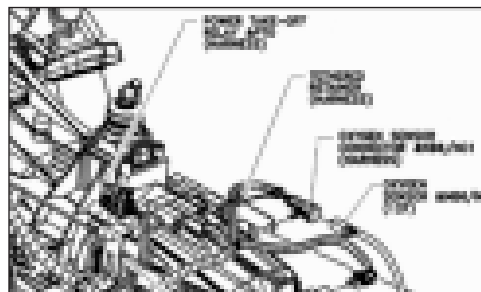

Fig. 17
20. On the right side of the transmission is a bracket for the oxygen sensor wiring harness (for California vehicle w/8.1L engines). This bracket is on all vehicles and may interfere with the hydraulic tubes. If the oxygen sensor wiring harness is on the vehicle, bend the bracket in towards the center of the transmission. If the vehicle has only the bracket, the bracket may be removed and the bolt torqued to 17 Lbs. ft. [23 N.m]. Do not apply sealant to bolt (Fig. 17).